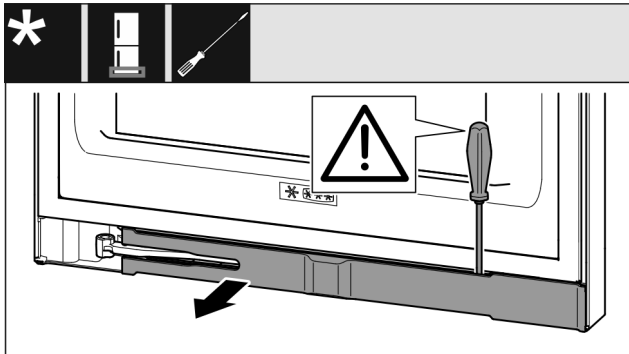

Fig. 13
- ▶ Unlatch the panel with a slotted screwdriver and swivel it to one side Fig. 13 ().